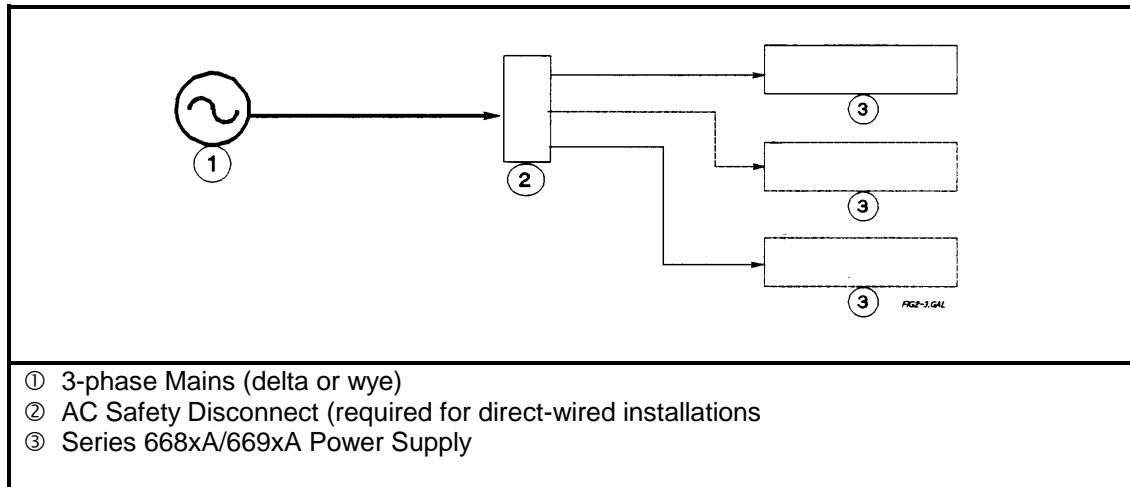

Figure 2-4. Series 668xA/669xA Overall Wiring Diagram.
The Series 668xA power supply requires a 3-phase power source that provides 7350 VA (6000 W) maximum. The supply has a delta input (no neutral connection) and will accept power from either delta (triangle) or wye (star) sources. Two voltage ranges are available (see "AC Input Ratings" in Table 1-4a). *In order to maintain phase current balancing, the power source should be a dedicated line with only Keysight Technologies Series 668xA/669xA supplies drawing current from it.* A disconnect box located near the power supply (see Figure 2-4) is recommended for all installations and *is mandatory for direct-wired installations.*
The Series 669xA power supply requires a 3-phase power source that provides 9000 VA (7950 W) maximum. The supply has a delta input (no neutral connection) and will accept power from either delta (triangle) or wye (star) sources. Two voltage ranges are available (see "AC Input Ratings" in Table 1-4a). *In order to maintain phase current balancing, the power source should be a dedicated line with only Keysight Technologies Series 668xA/669xA supplies drawing current from it.* A disconnect box located near the power supply (see Figure 2-4) is recommended for all power cords with plugs and *is mandatory for hard-wired power installations.*
- c. **Series 668xA** - Unscrew the fuse caps from the rear panel (2, Figure 2-4). Verify that the fuse is as specified on the label. Replace the fuse.